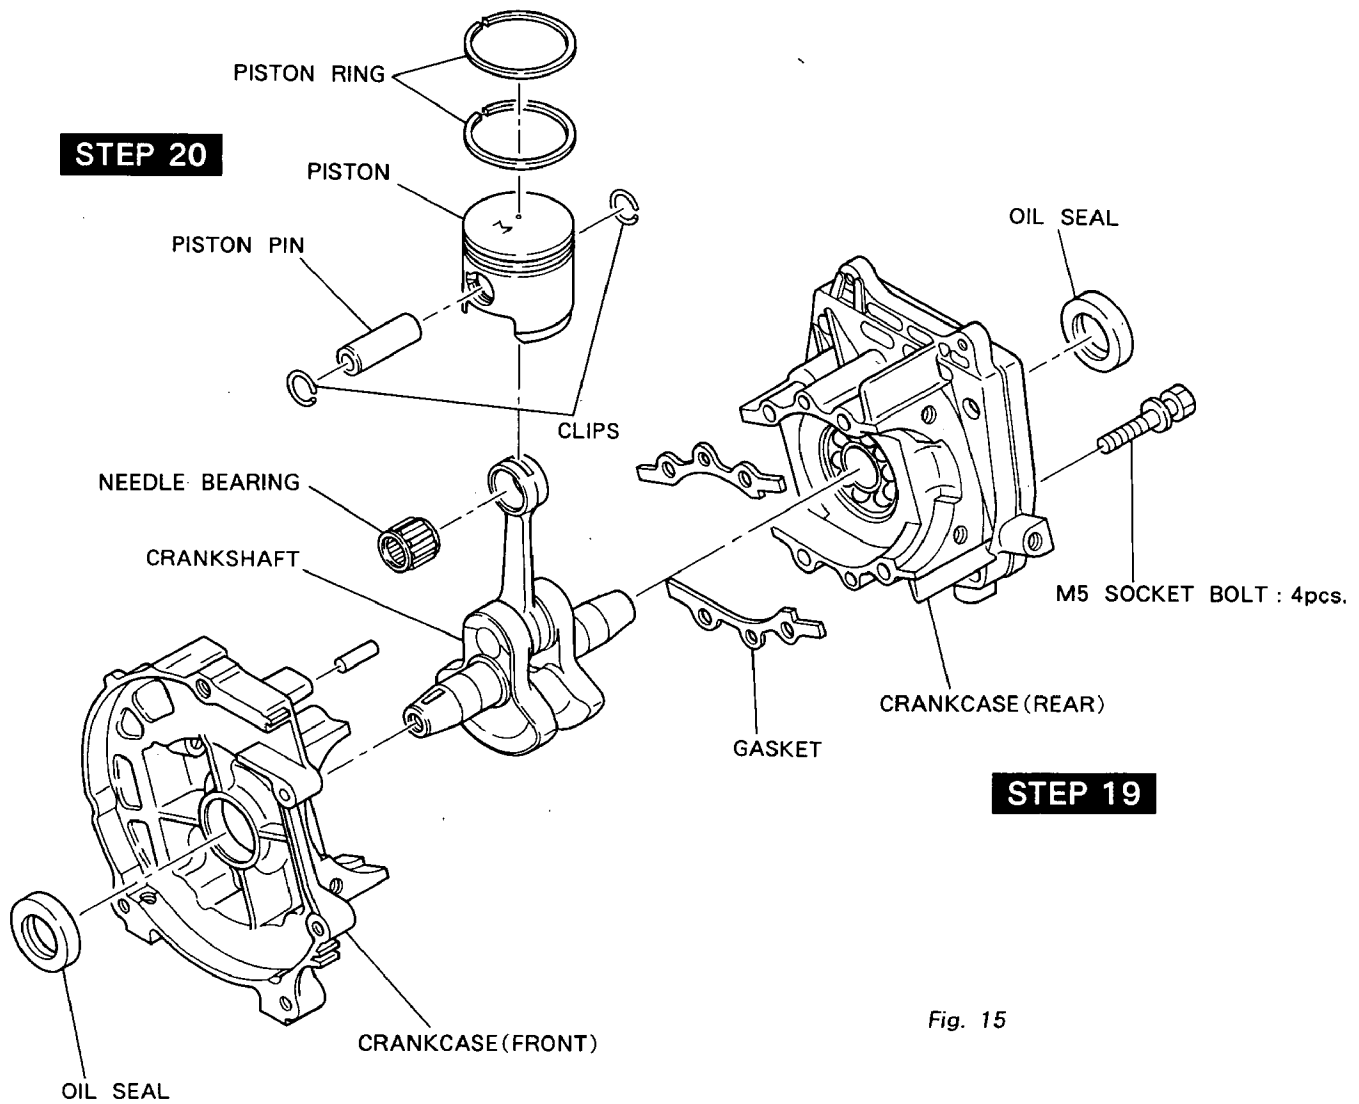

Fig. 15
- (2) Install needle bearing to small end of connecting rod.
- (3) Assemble piston and connecting rod with piston pin and clips. (See page 14, Fig. 15.)